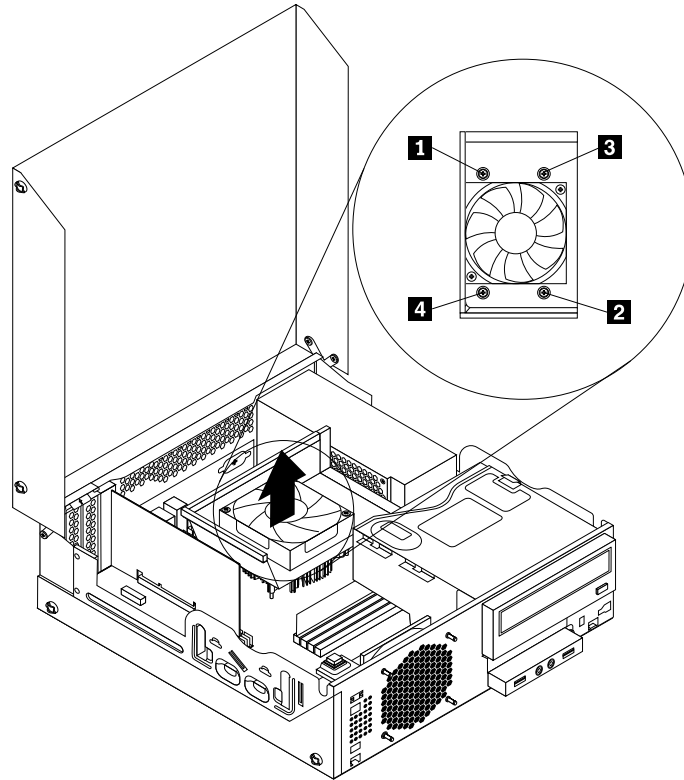

Figure 31. Screws that secure the heat sink and fan assembly
8. Follow this sequence to install the four screws to secure the new heat sink and fan assembly, as shown in Figure 31 “Screws that secure the heat sink and fan assembly” on page 46: